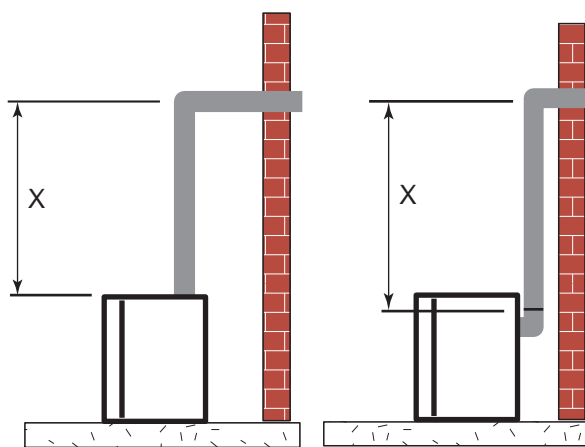

Figure 28 - Vertical Height Requirements FP1181
Place fireplace into position. Measure the vertical height (X) required from the base of the flue collars to the center of the wall opening. *Figure 28*